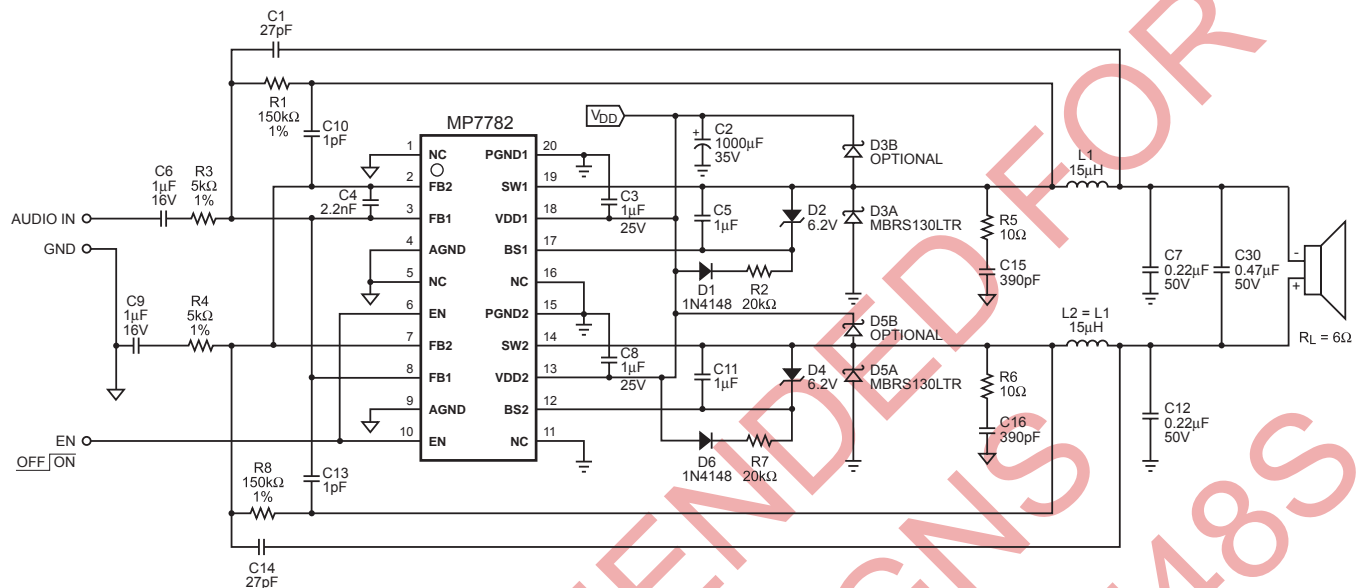

Figure 1 — 50W Class D BTL Amplifier ($V_{DD} = 24V$)
(Circuit of Figure 1, $V_{DD} = 24V$, $V_{EN} = 5V$, $T_A = +25^\circ C$, unless otherwise noted.)
Circuit of Figure 1, $V_{DD} = 24V$, $T_A = +25^\circ C$
The MP7782 uses a minimum number of external components to complete a fully bridged Class D audio amplifier. The circuit in Figure 1 shows a typical application. Use the following sections to customize the amplifier for your particular application.
Two identical LC filters are required in the typical application. The inductor-capacitor (LC) filter is a second order filter that converts the pulse train at SW (pins 14, 19) to the output differential signal that drives the speaker. Typical values for the LC filters are shown in Figure 1. The characteristic frequency of the LC filter needs to be high enough to allow high frequency audio to reach the output, yet needs to be low enough to filter out high frequency contents of the pulses from SW. The characteristic frequency of the LC filter is: